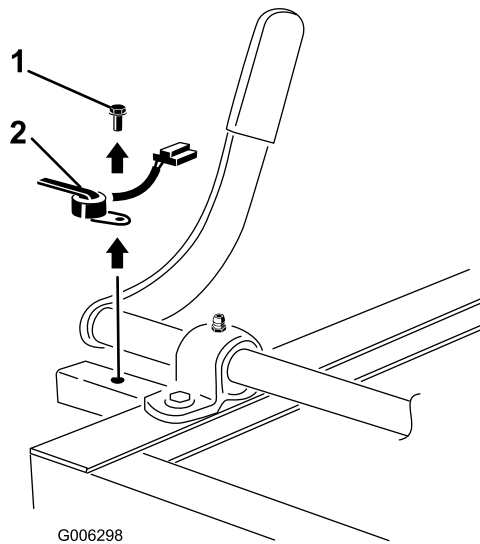

Figure 8
4. Disconnect the PTO switch wire connector from the traction unit main wire harness connector (Figure 8).
5. Remove the cap screw securing the PTO switch to the frame mounting bracket and remove the switch (Figure 8)